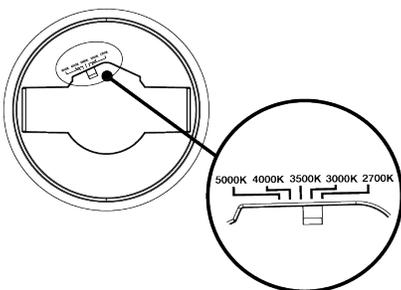

Fig. 1
1. CCT selector switches are located on the back of the fixture. Select the desired colour temperature on the fixture. (Fig. 1)